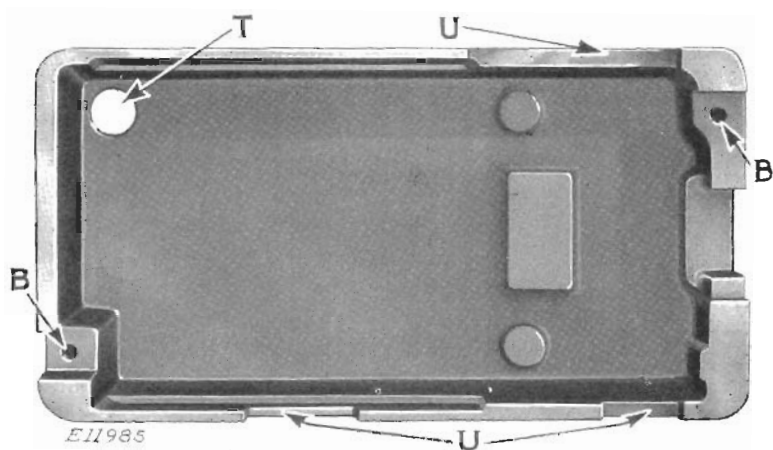

FIG. 28. INSIDE VIEW OF BAKELITE TREADLE CONTROLLER COVER
**Treadle Controller.** Remove the controller from the stand to which it is attached, and remove the controller leads from the cabinet. Remove the two screws which fasten the cover, Fig. 28, to the base, Fig. 26, at (B), and lift the cover from the base. Inspect the wires and connections at (D, Fig. 26).
**Replace the Cover—Treadle Controller.** (See Fig. 28). Pass the controller leads through the opening (T) in the cover;